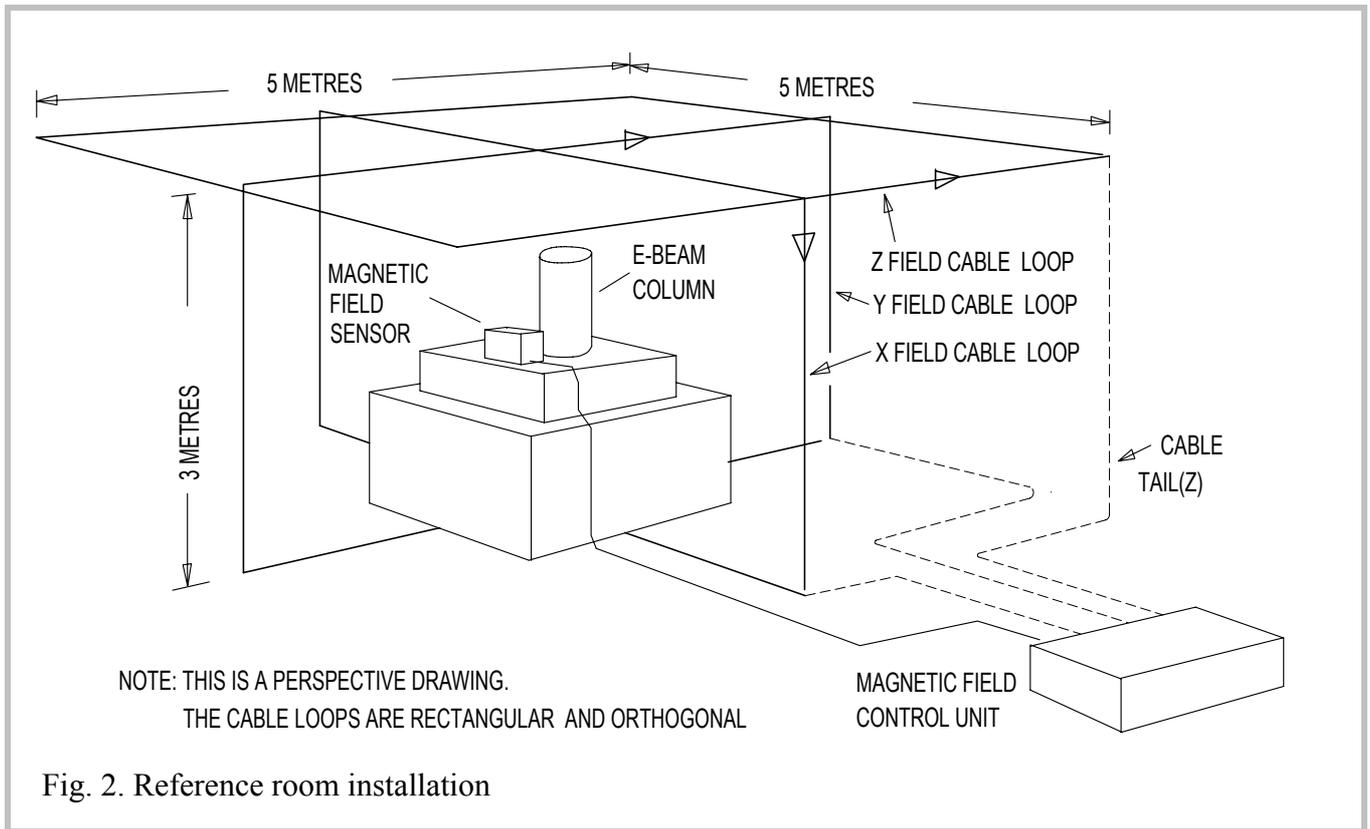

Fig. 2. Reference room installation
To specify the SC20 performance more rigorously, we use a reference cable installation geometry. This is shown in Fig. 2. The electron beam column is centred in the 3m x 5m X and Y loops (which cross over above and below the column) and the 5m x 5m Z loop. The SC20 specifications on page 5 apply to this reference room installation.
Dynamic range (X & Y)	80 mG (8 $\mu$ T) pk-pk (installation Fig. 2)
Dynamic range (Z)	60 mG (6 $\mu$ T) pk-pk (installation Fig. 2)
Dynamic range (X & Y)	$\pm$ 40 mG ( $\pm$ 4 $\mu$ T) incremental, (installation Fig. 2)
Dynamic range (Z)	$\pm$ 30 mG ( $\pm$ 3 $\mu$ T) incremental, (installation Fig. 2)